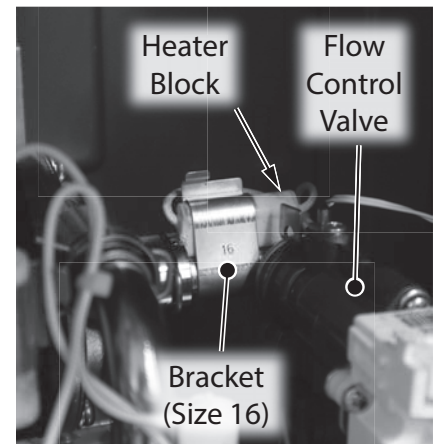

Figure 31 - Remove heater block
- 8 Locate the heater block attached to the pump inlet elbow behind the flow control valve as shown in Figure 31.